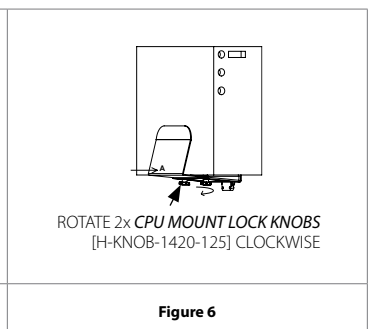

Figure 6
4. While applying pressure on the *CPU MOUNT FRONT PLATE* at the face labelled "A" with one hand, in the direction of the arrow, rotate the 2x *CPU MOUNT LOCK KNOBS* clockwise to the tightest position to lock the *CPU* in place (Figure 6). This will cause the *CPU MOUNT FRONT PLATE* to tilt forward and clamp the *CPU*. DO NOT tighten the *CPU MOUNT LOCK KNOBS* individually. Instead, slightly tighten one, move on to the other, and back again to the first until both are tight. For best results, it is recommended to be installed by two people where one applies a constant pressure at face "A" while the other tightens the *CPU MOUNT LOCK KNOBS* simultaneously.